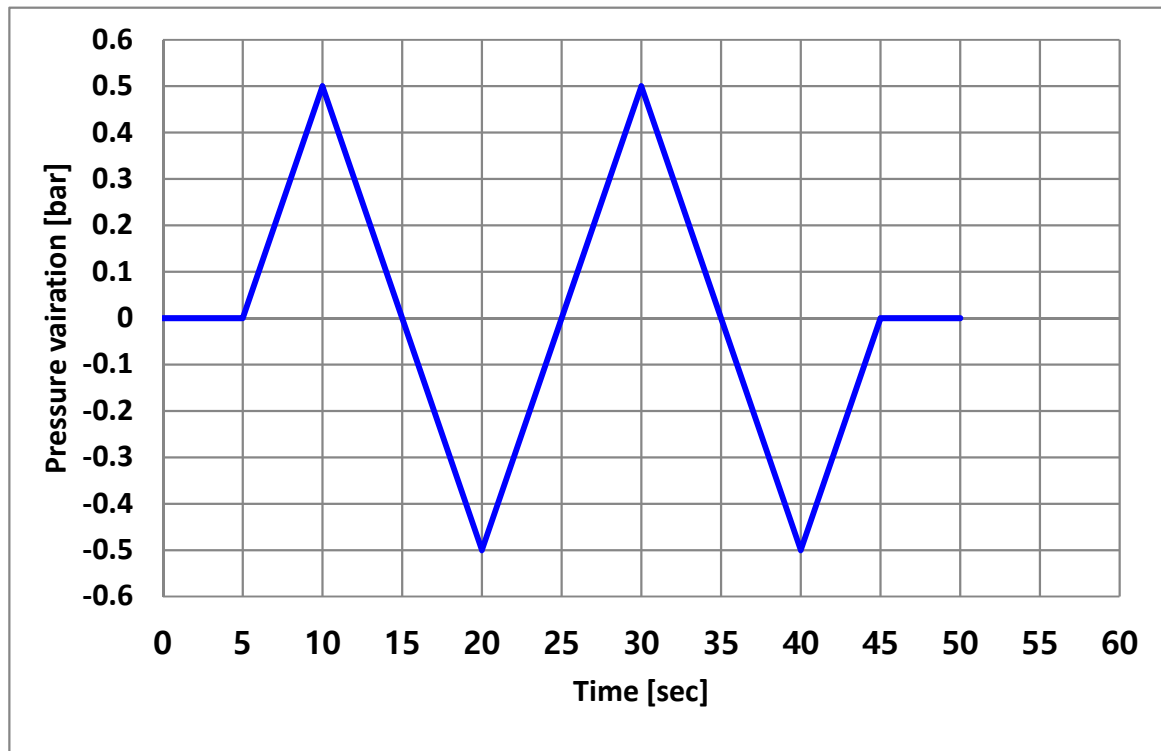

Fig. 4-1-3 Permissible gas supply pressure fluctuation
- Max. allowable gas pressure fluctuation: Refer to fig. 4-1-3 for allowable variation of pressure.